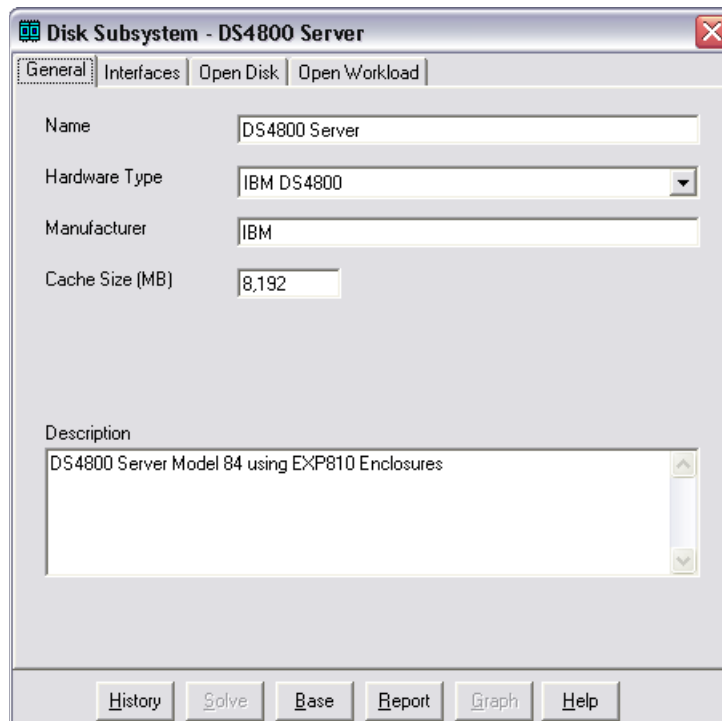

Figure 8-9 Storage subsystem General tab
- The General page allows you to enter Disk Subsystem level configuration data, such as the brand and type of subsystem and cache size. You can rename the disk subsystem and set the appropriate type, as shown in Figure 8-9.